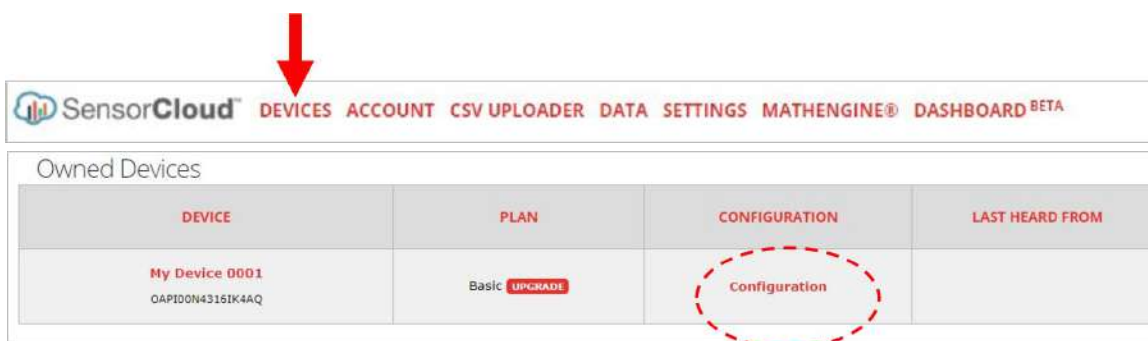

Figure 26 - Gateway Configuration
1. While in SensorCloud™ open the Devices menu, and select the device Configuration link (Figure 26 - Gateway Configuration).